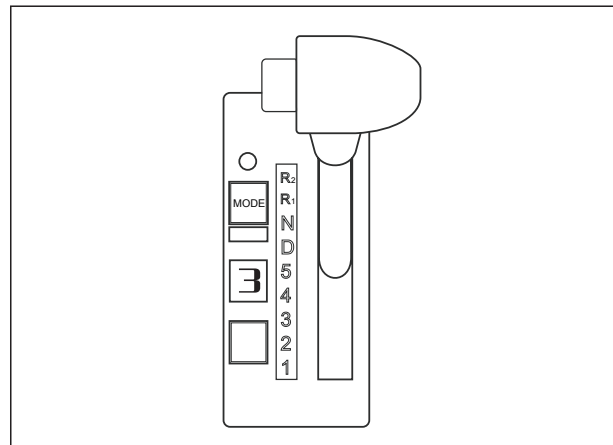

Fig. 4-14
3. Make sure the transmission shift selector is in the 'NEUTRAL' position.(see Fig .4-14).